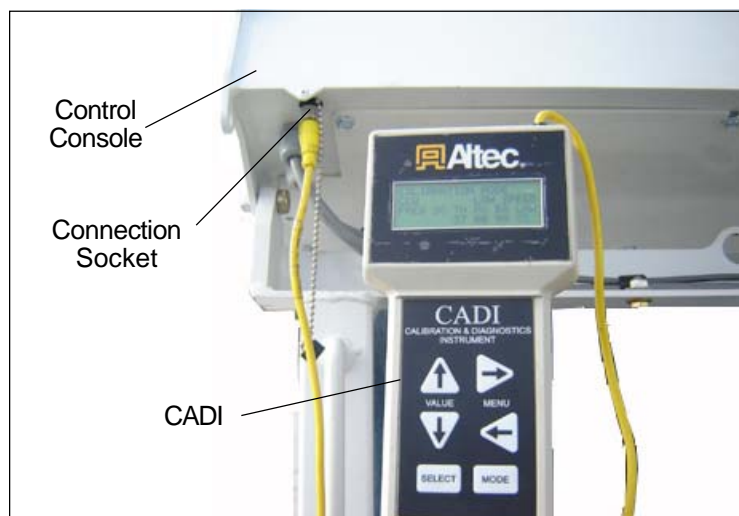

Figure 7 - CADI Attached to Connection Socket
3. Connect the cable from the CADI to the CADI connection socket (refer to Figure 7).